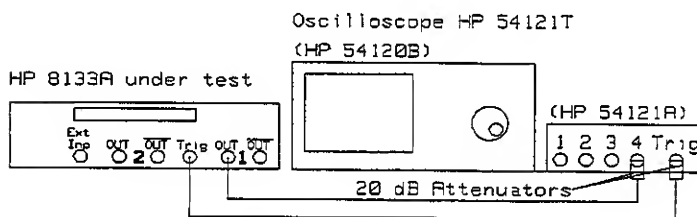

Figure 6-15. **PULSE** Channel Width Test Set-up
42. Connect the HP 8133A to the oscilloscope as shown in Figure 6-15.
56. Keep the equipment as shown in Figure 6-15, but remove the 20 dB attenuator on Channel 4 of the oscilloscope.